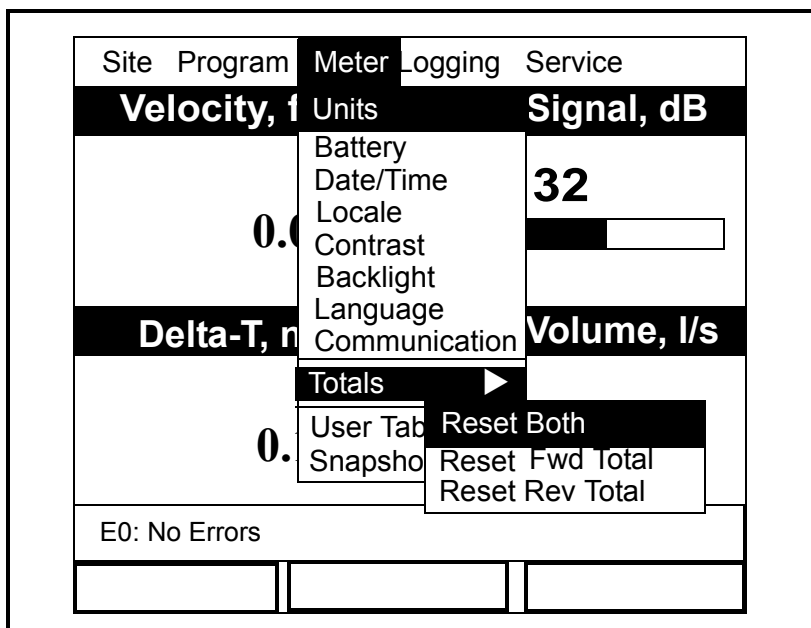

Figure 3-18: The Totals Submenu
2. Scroll to the *Totals* option and press [ENTER]. A submenu with the options shown in Figure 3-18 below opens.